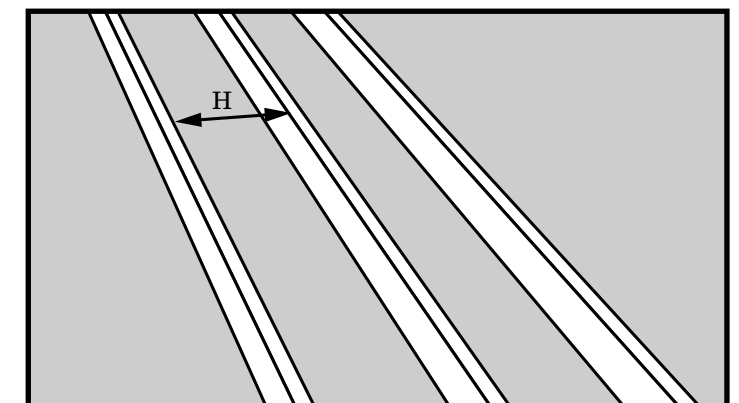

Figure 14
STEP 1. Measure the header length “H” between the joists as shown in Figure 14.